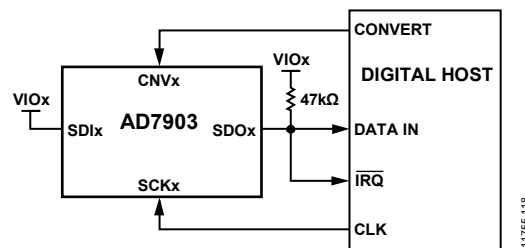
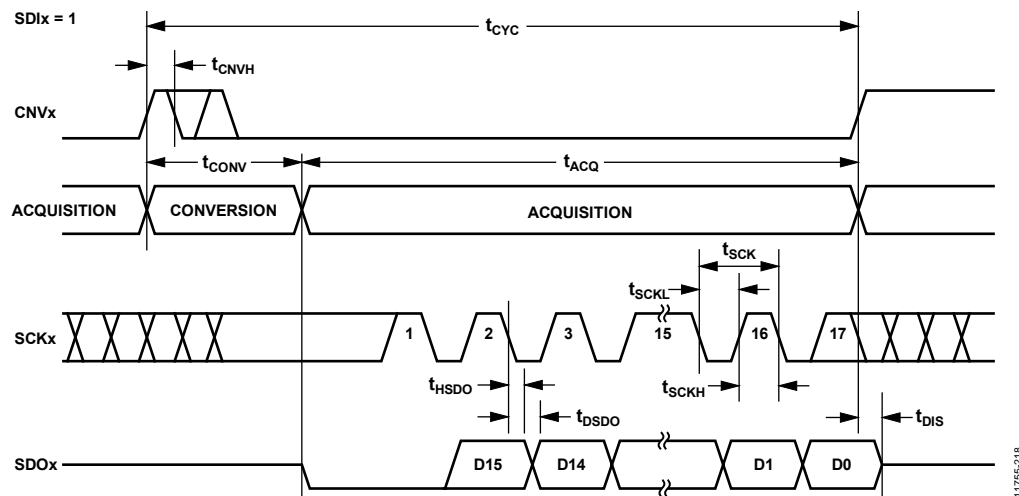
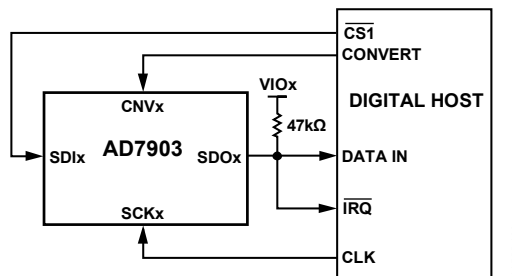
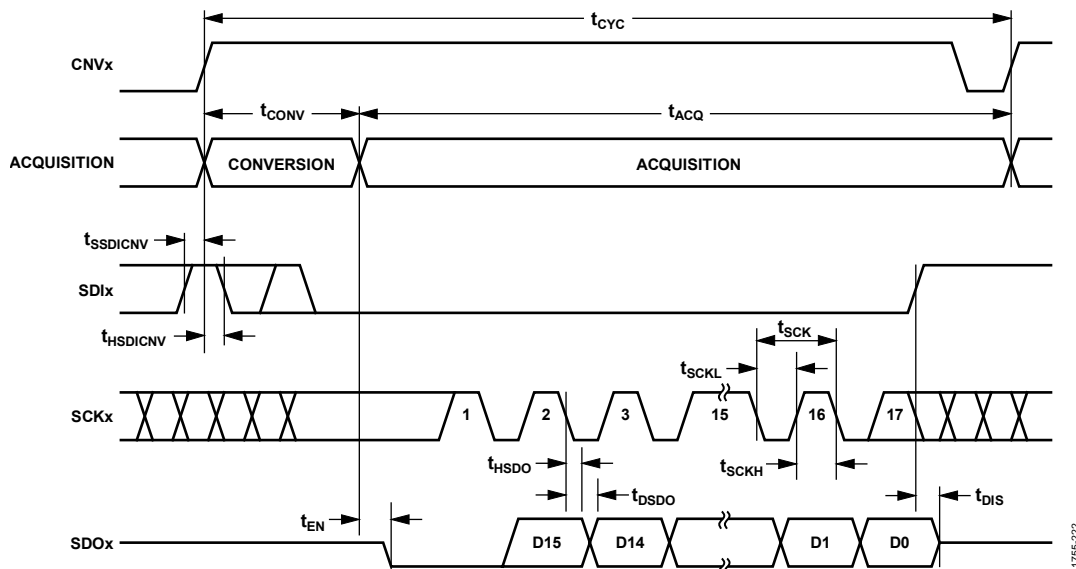

Figure 41. $\overline{\text{CS}}$ Mode, 3-Wire Interface with Busy Indicator Connection Diagram (SDIx High)
Figure 42. $\overline{\text{CS}}$ Mode, 3-Wire Interface with Busy Indicator Serial Interface Timing (SDIx High)
Figure 45. $\overline{\text{CS}}$ Mode, 4-Wire Interface with Busy Indicator Connection Diagram
Figure 46. $\overline{\text{CS}}$ Mode, 4-Wire Interface with Busy Indicator Serial Interface Timing
- In $\overline{\text{CS}}$ mode if CNVx or SDIx is low when the ADC conversion ends (see Figure 42 and Figure 46).
The connection diagram is shown in Figure 41, and the corresponding timing is shown in Figure 42.
The connection diagram is shown in Figure 45, and the corresponding timing is given in Figure 46.